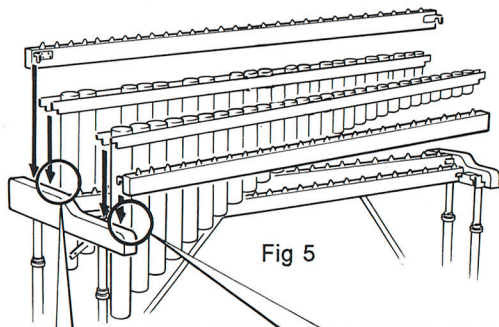

Fig 5
- 5 Place the resonators into the frame. (Fig 5)